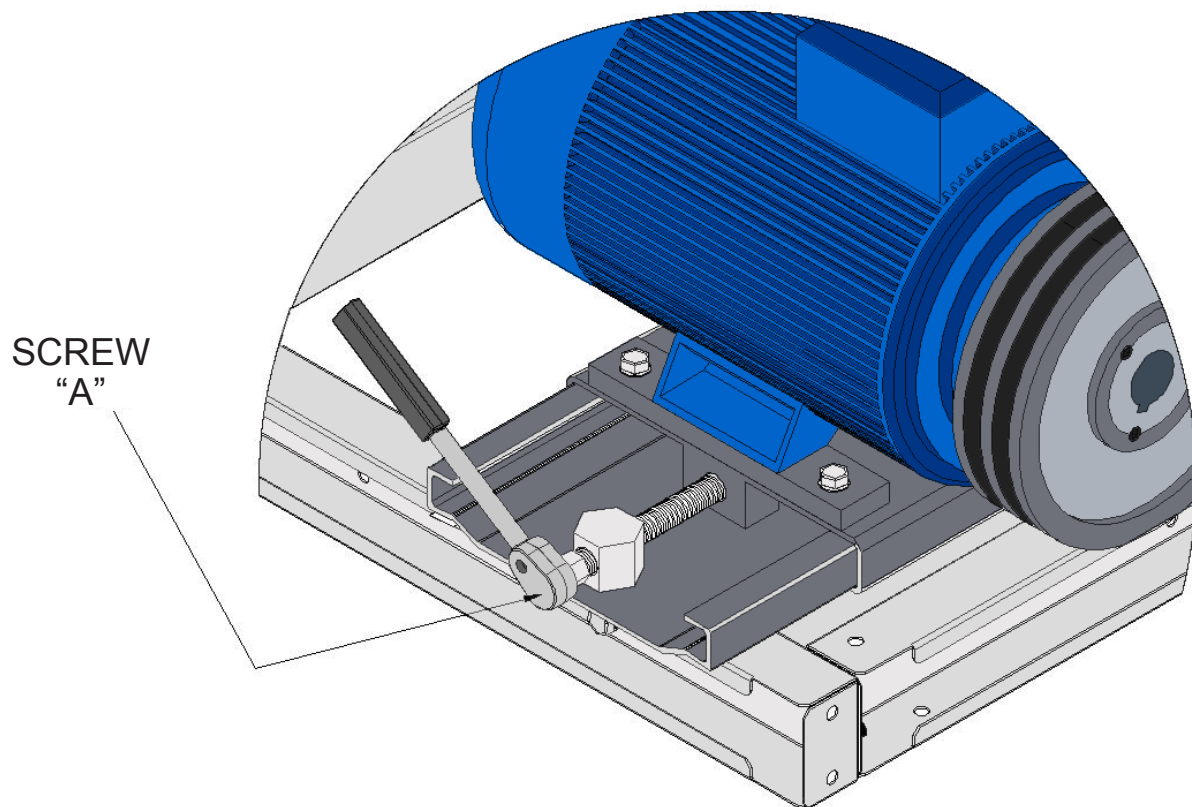

Fig. 9
5. if “C” value is lower (belt is too tensioned) adjustment through screw “A” (see Fig. 9) by reducing distance between motor and fan, if “C” value is larger (belt is not much tensioned) is necessary, always through screw “A”, to increase the distance between motor and fan;